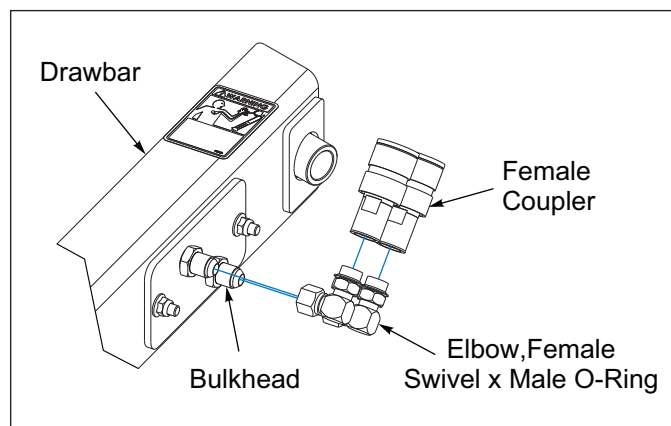

Figure 2-11: Female Coupler Installation
1. Install a Female Swivel x Male O-Ring Elbow Fitting onto each Drawbar Bulkhead. **See Figure 2-11.**